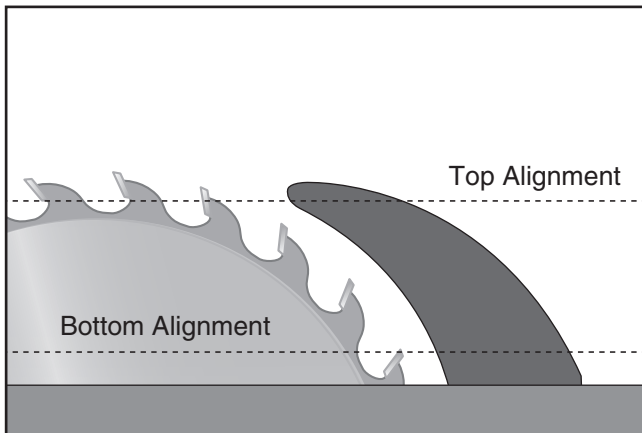

Figure 131. Checking top and bottom riving knife parallelism with blade.
4. Place the straightedge against the top and bottom of blade and spreader/riving knife, as shown in **Figure 131**.